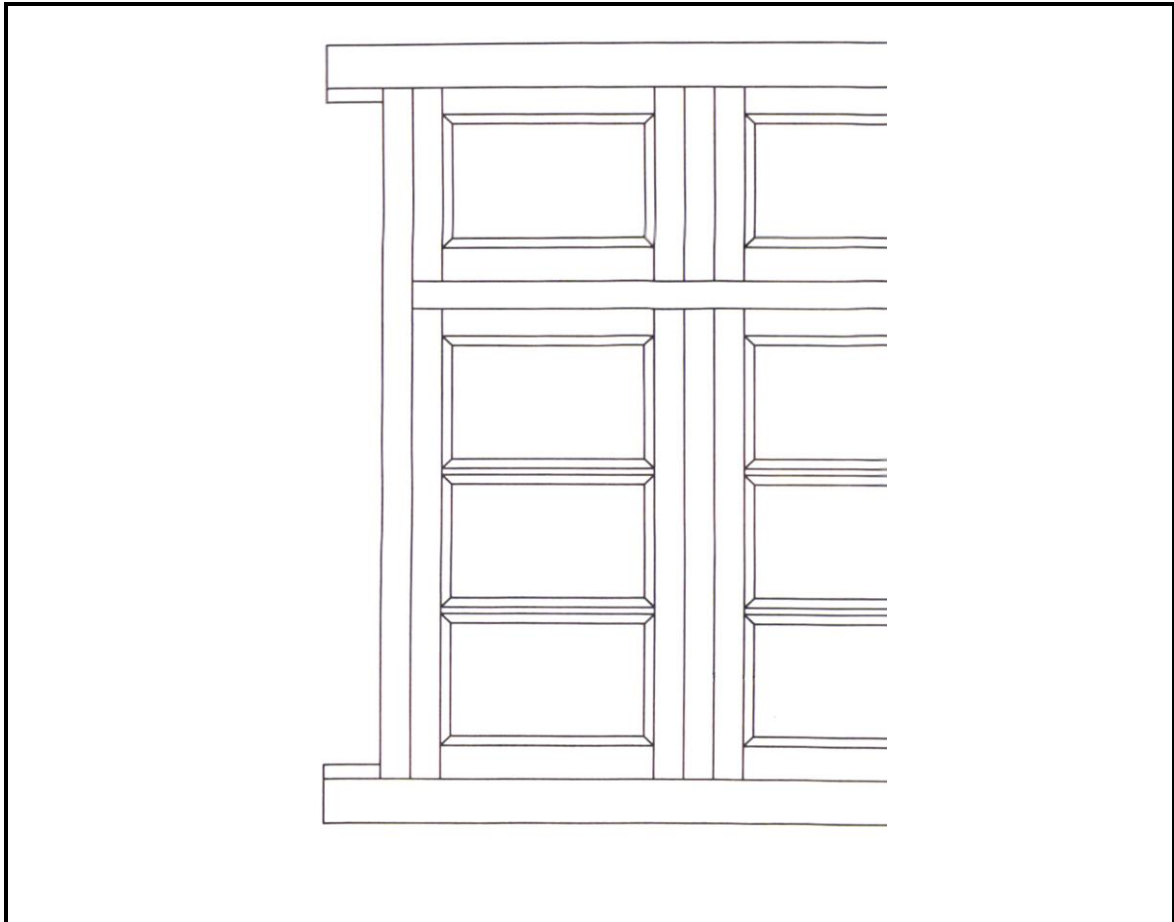

FIGURE 3.4
3.4 FIGURE 3.4 below shows part of a double casement with fanlights. Study the picture and answer the questions that follow.